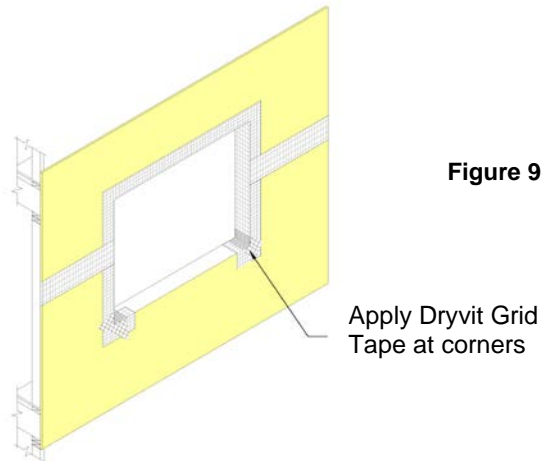

Figure 9
- 1) Apply Dryvit Grid Tape along the jambs and head of the opening as well as all sheathing joints that may intersect the opening and lap onto face of wall a minimum of 2 in (51 mm). Add additional pieces of Grid Tape at the inside corners of the opening to maintain continuity – Figure 9.